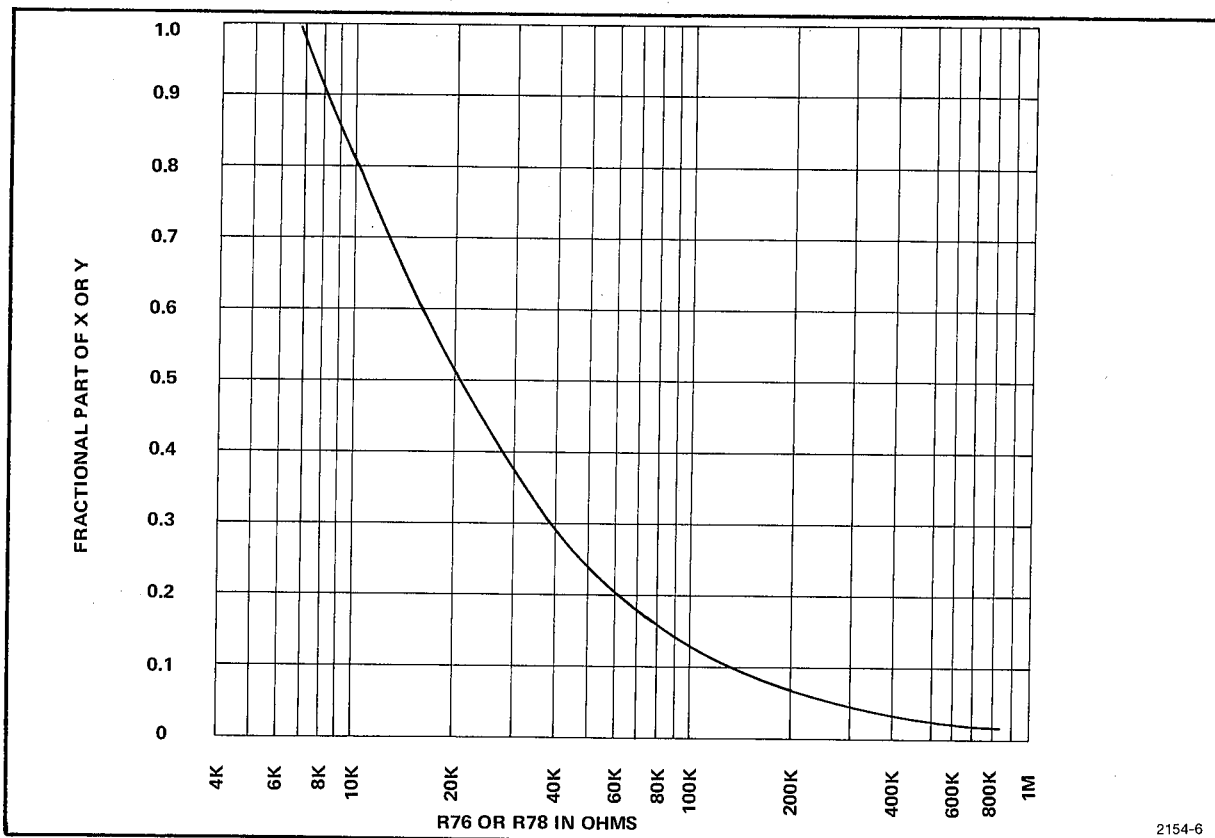

Fig. 4-3. R76 or R78 vs gain offset in dB.
(4) Resistor R76 or R78, or both, may be changed to add a small amount of gain (up to 1 dB) in the 7L5 so that the L3 will be calibrated in dBm with respect to the new termination impedance. The resistor value is given in Fig. 4-3.
(5) The programmable logic array is reprogrammed so that the dBm readout(s) will be correct.
In step 6, part a, since R66 was not changed, R76 is not installed. Since the fractional part of x in step 5, part b, is 0.56, the graph of Fig. 4-3 shows $R78 = 18$ k Ω which is a standard 5% value.
a. The value of R76 and R78 can be determined from the graph in Fig. 4-3. R76 pairs with R66 termination and R78 goes with R64 termination. The horizontal axis of the graph represents the fractional part of x or y, determined by the computations in step 5, part b (e.g., 0.218 for y value of 2.218 is 51 k Ω for R78).